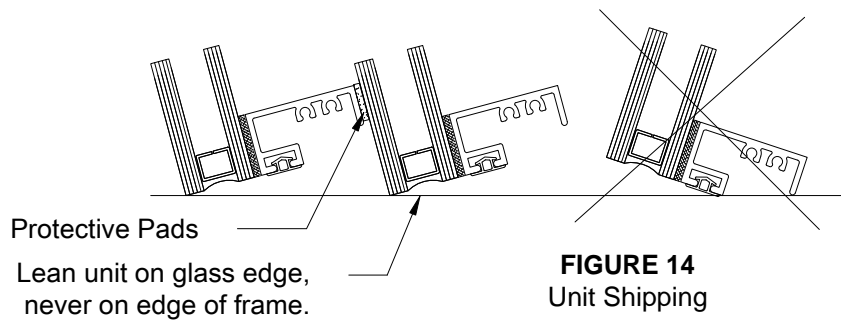

FIGURE 14
- 2.17 Units may be moved to storage area. Do not stack glazed units on top of each other. If stored or crated vertically on edge, be sure there is support for the weight of the glass; i.e. stand at angle on edge of glass and not on edge of frame. SEE FIGURE 14, page 18.